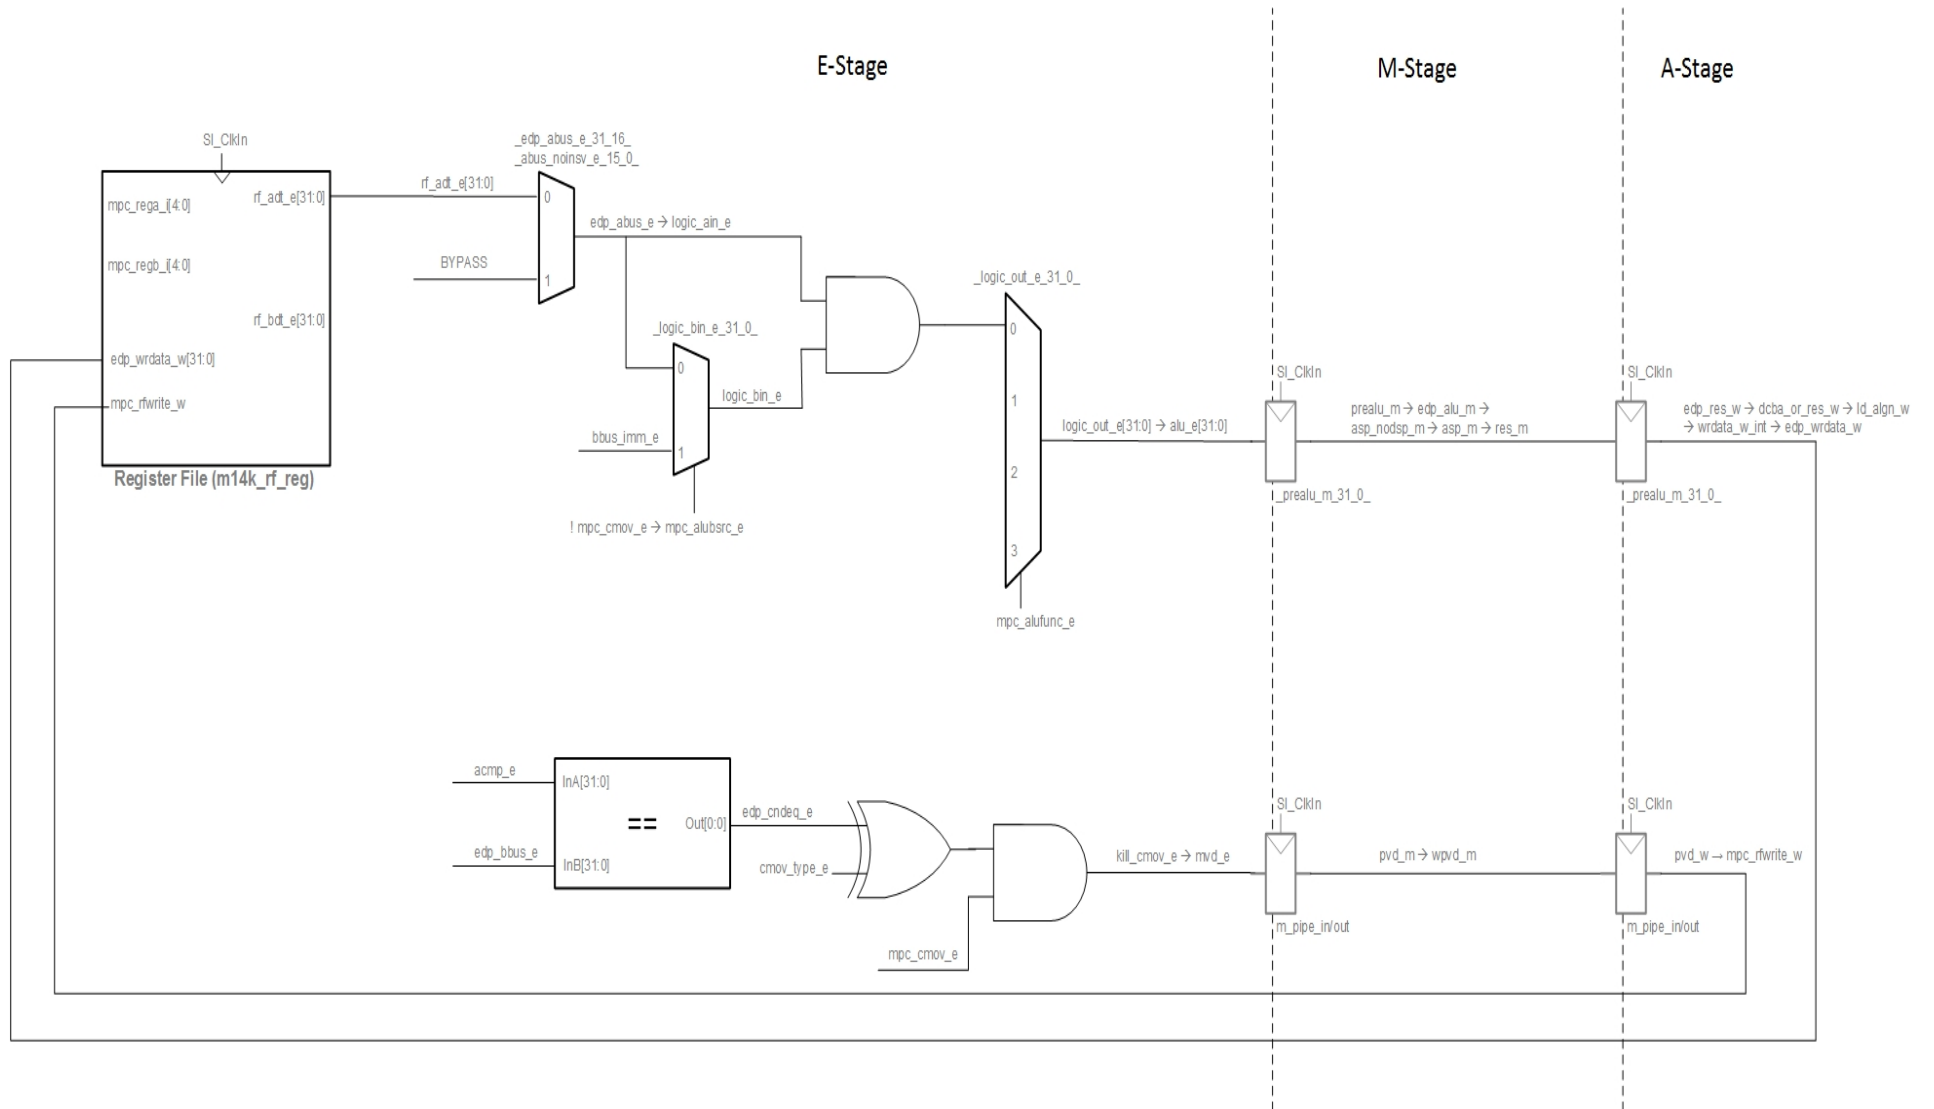

FIGURE 3. Involved structures and signals for MOVZ/MOVN.
- Let's first understand the original instructions, MOVZ/MOVN (Figure 3): These instructions are handled like an AND instruction, with some changes: